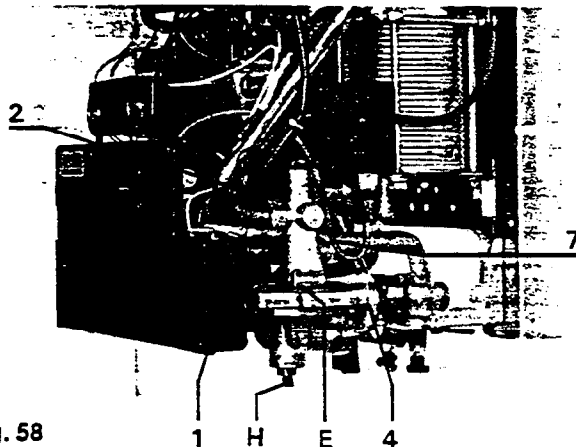

Fig. 58
- c) Close heating flow and return valves (B & C) (see section 8.11 (fig. 58 a)).
- d) Drain boiler down through safety valve (F) (see section 8.11 (fig. 58 a)).
- e) Disconnect flow switch pipe union from pump volute (E).
- f) Disconnect manual vent tube (B) be carefull not to loose black washer.
- g) Pull out spring clip (A) with pliers.
- h) Disconnect pump connection at union (D) at pump outlet.
- c) Isolate mains water supply - drain from valve beneath the change over valve (see section 8.11 fig. 58 (H)).